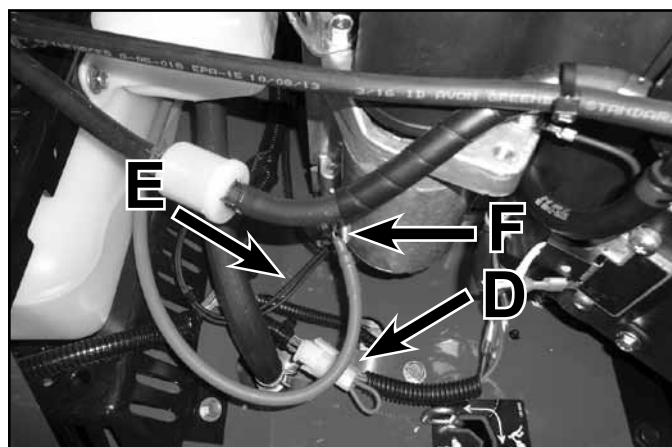

Fig. 052
14. Disconnect the chassis-to-engine electrical connection (D).
15. Disconnect the ground wires from the engine block (E).
16. Disconnect the positive battery cable (F) from the starter motor (Fig. 052).